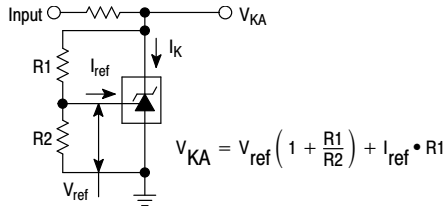

Figure 2. Test Circuit for $V_{KA} > V_{ref}$
6. The dynamic impedance Z_{KA} is defined as $|Z_{KA}| = \frac{\Delta V_{KA}}{\Delta I_K}$. When the device is programmed with two external resistors, R1 and R2, (refer to Figure 2) the total dynamic impedance of the circuit is defined as: $|Z_{KA}'| \approx |Z_{KA}| \left(1 + \frac{R1}{R2} \right)$